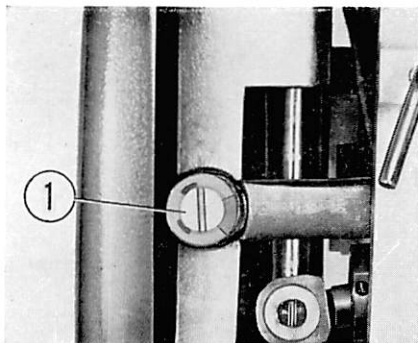

Fig. 30
If the needle does not stitch into the center of the throat plate groove at the 0 position, remove the face plate, loosen the eccentric shaft set screw and as you rotate the eccentric shaft (Fig. 30 ①) with a screw driver, adjust the correct needle stitching position.